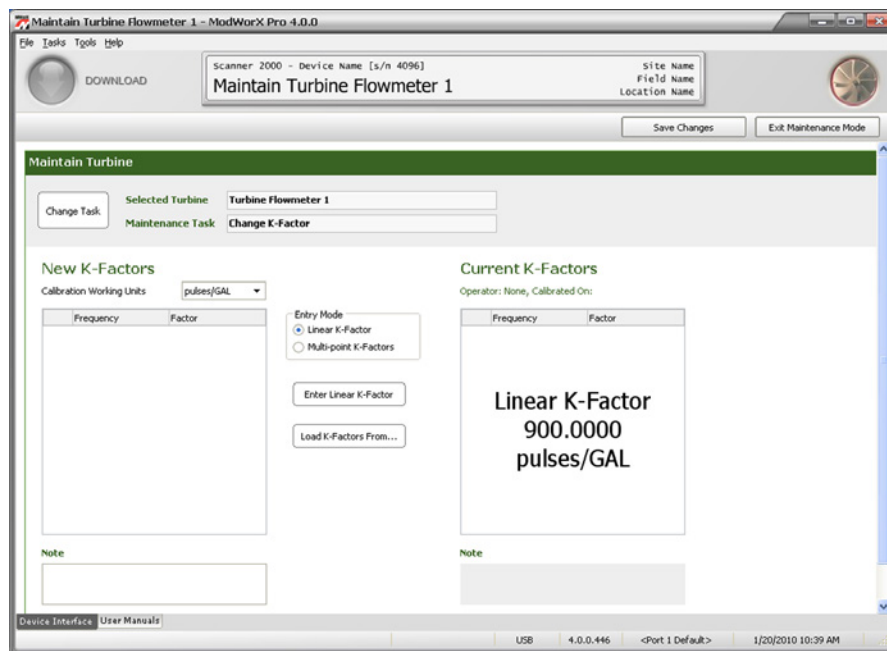

Figure 13.8
4. Click **OK** to save the new settings and return to the Maintain Turbine Flowmeter screen (Figure 13.8).